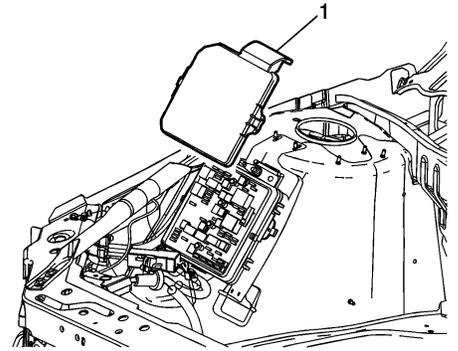

Fig. 3 Electrical center cover removal
10. Remove electrical center cover (1), **Fig. 3**.
3. Install electrical center cover (1), **Fig. 3**.